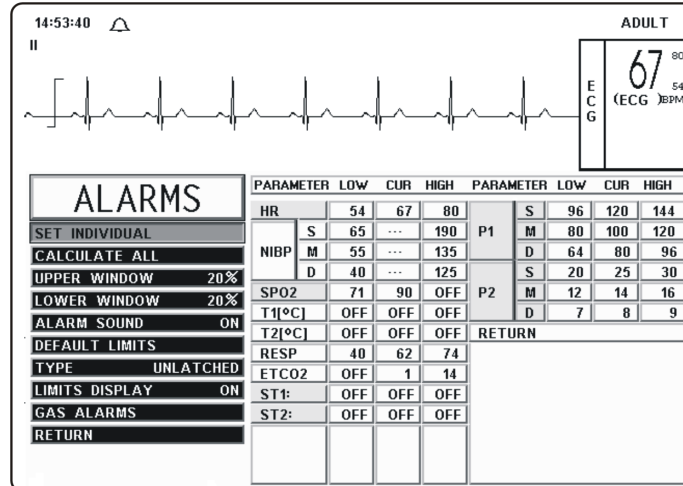

Figure 6-1. The ALARMS Menu
6.3 Alarms Menu. Pressing the **ALARMS SCREEN** Menu-Select Key will bring up the **ALARMS** Menu (See **Figure 6-1**). While in the **ALARMS** Menu, the Alarm Tone is disabled, (and will not sound for any reason). The previously selected status of the Alarm Tone will return upon exiting this menu. This menu also displays parameters which are not contained on this series monitor (e.g.: P3 and P4), the Alarm Setting for the parameters not contained in this monitor will always be OFF and, if the operator attempts to select any inactive parameter, the monitor will display a message that indicates the selected feature is not available.